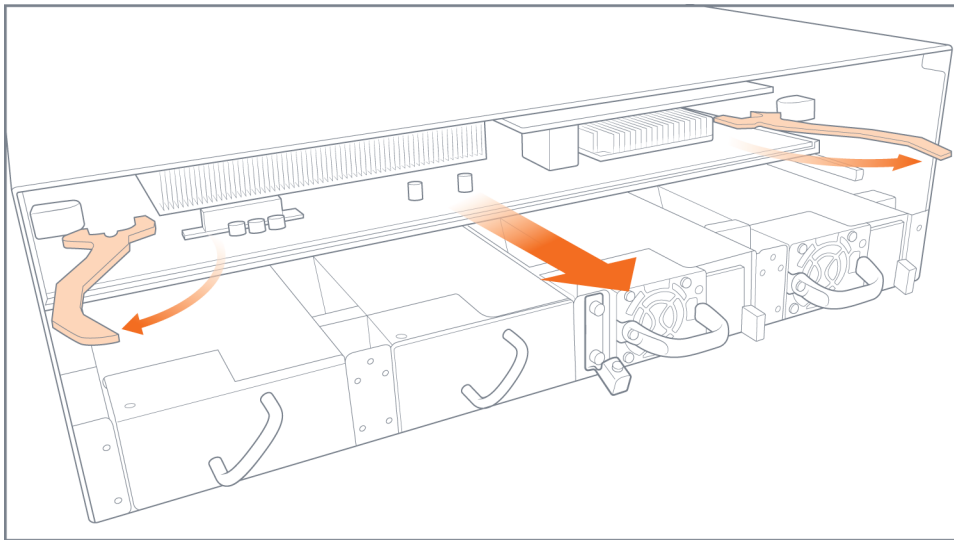

Figure 18 Control Card Ejector Handles
4. Swing both ejector handles outward, as shown in Figure 18 Control Card Ejector Handles.